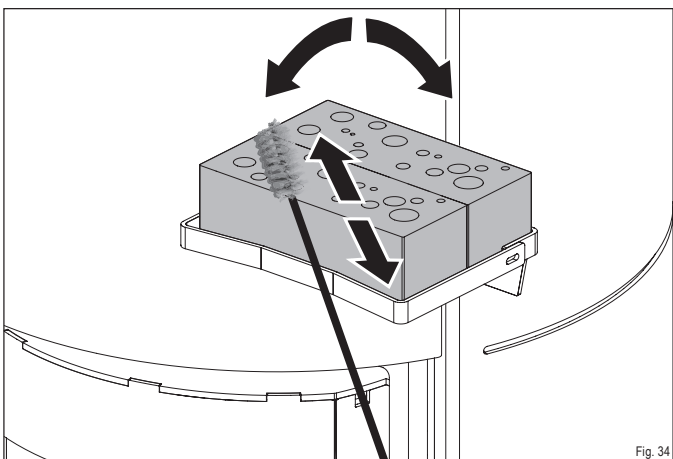

Fig. 34
- ▶ Brush the catalytic combustors as shown (Fig. 34).